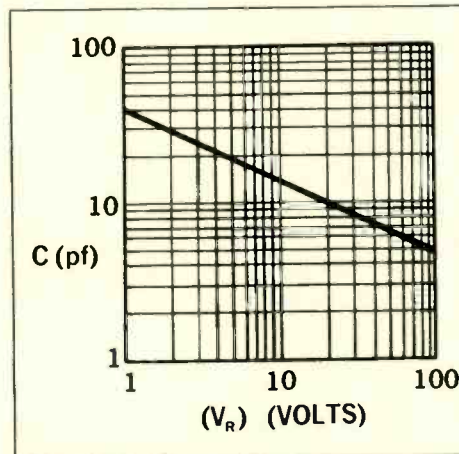
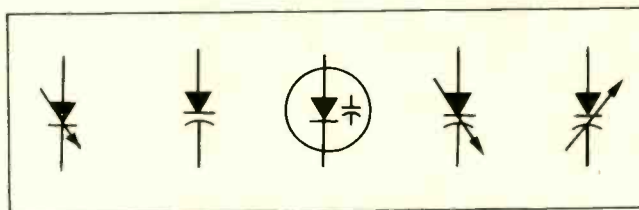

Fig. 7—Graph illustrating how the capacitance decreases as the reverse bias increases.
Fig. 8—Commonly used varactor symbols.
junction capacitance. The name *voltage dependent capacitor* is therefore very appropriate for a varactor. The graph in Fig. 7 shows capacitance (C) in picofarads plotted as a function of reverse bias (V_R) in volts, for a typical varactor and clearly illustrates the inverse relationship between capacitance and voltage. Commonly used varactor symbols are shown in Fig. 8.